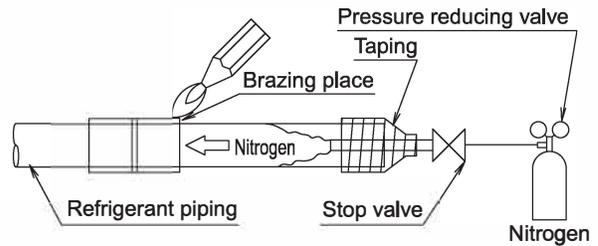

Fig. 9
- Use the insulation for fitting (3) and (4) provided to the liquid piping and gas piping, respectively and conduct heat insulation work. (Tighten both edges of the insulation for fitting(3) and (4) for each joint with clamp(7)).
- Make sure that the joint of the insulation for fitting(4) and (5) for the joint on the liquid piping and gas piping side faces upwards.
- Wrap the middle sealing material(6) around the insulation for fitting (3) and (4) for the joint(flare nut part).
- Before brazing refrigerant piping, have nitrogen flow through the refrigerant piping and substitute air with nitrogen (NOTE 1) (Refer to Fig. 9). Then, carry out brazing (NOTE 2). After all the brazing works are finished, carry out flare connection with the indoor unit. (Refer to Fig. 8)